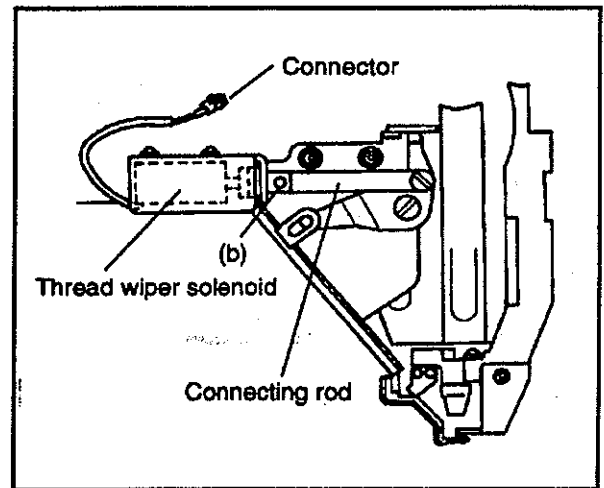

FIG.1
- (1) Remove the top cover and the side cover.
- (2) Disconnect the connector of the thread wiper solenoid (Fig.1).
- (3) Remove four retaining screws (a) and retaining screw (b), and the thread wiper solenoid (Fig.1).
- (1) Mount the thread wiper solenoid to the connecting rod with the cord side facing toward you, and secure the solenoid with retaining screw (b) (Fig.1).
- (2) Temporarily secure the solenoid to the solenoid base with four retaining screws (a) (Fig.1).
- (3) Push the thread wiper hook down as far as it will go in the direction of the arrow. Move the solenoid to the right and left so that distance A from the needle center to the thread wiper hook tip is 14 ~ 16mm. Firmly tighten set screw (a) (Figs.1 and 2).